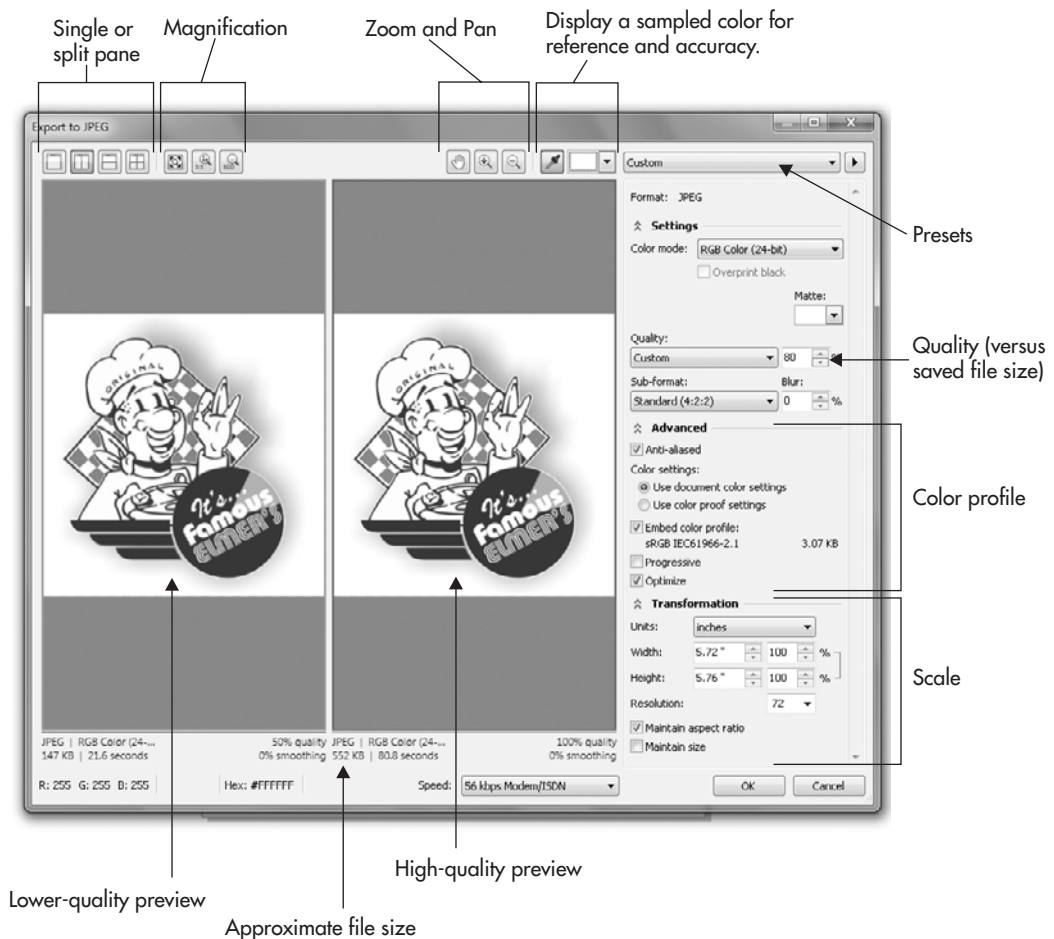

FIGURE 3-11 When an Export displays a secondary dialog, use it to your advantage. Create the right size dimensions and file size for your intended audience.
8. Here's where the action happens: the secondary filter dialog specific to JPEG images, as shown in Figure 3-11. First, click the Two Vertical Previews button near the top left. Now you have two previews and can compare, for example, 100% quality versus 50% quality settings for export. JPEG compression discards some original photo information, but you get to set the level of compression in this dialog, and you can preview an acceptable and an unacceptable amount of visual compression. To use the preview panes, click inside one to select it, and then choose a JPEG setting from the Presets drop-down at right or enter it manually. Then compare what you see onscreen.